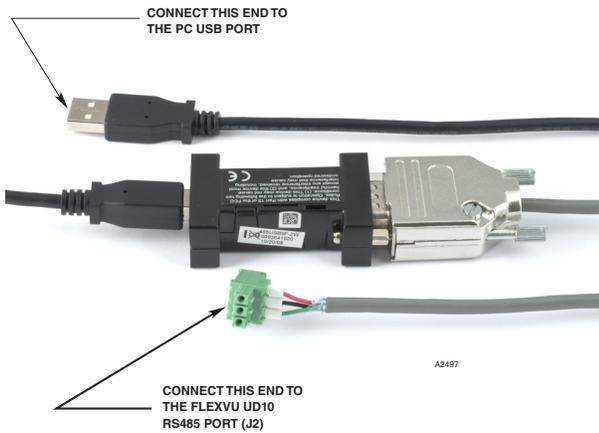

Figure 1—Gas Inspector Connector with RS-485 to USB Converter
3. Connect the RS-485 to the FlexVu UD10's Modbus terminal, then connect the converter to a USB port on the PC (Figure 1).